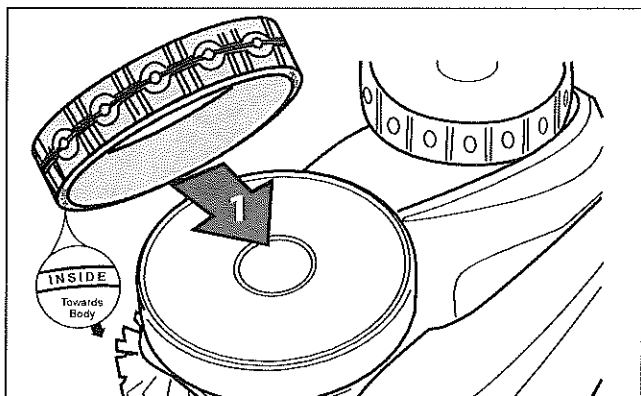

Figure 37. Tire Replacement Orientation
3. To replace the tire, position the tire on the wheel making sure to orient the tire so that the word **INSIDE** is toward the body of the cleaner (Figure 37).